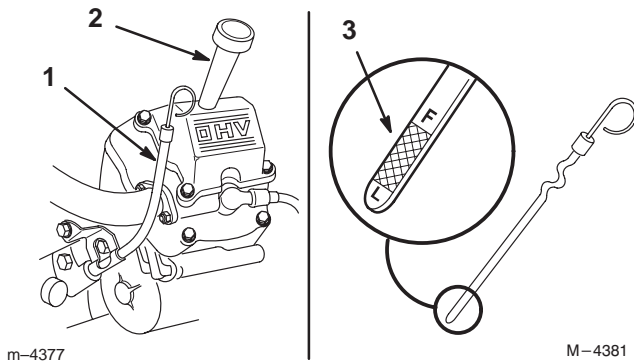

Figure 23
2. Clean around the oil dipstick so dirt cannot fall into the filler hole and damage the engine (Fig. 23).
3. Pull the oil dipstick out and wipe the metal end clean (Fig. 23).
4. Slide the oil dipstick fully into the filler tube. Pull the dipstick out and look at the metal end (Fig. 23). If oil level is low, slowly pour only enough oil into the filler tube to raise the level to the “FULL” mark.
5. Slowly pour approximately 80% of the specified amount of oil specified, page 41, into the filler tube (Fig. 23). Now check the oil level; refer to Checking Oil Level, page 42. Slowly add additional oil to bring to “FULL” mark on dipstick.